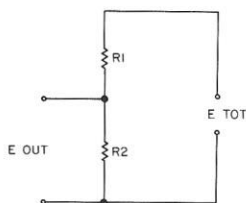

Fig. 1. Voltage divider circuit.
**Voltage divider:** The voltage divider program is located from statement numbers 200 to 460. Like the others, it may be written as a stand-alone routine. It solves for any missing part of a classic voltage divider, as shown in Fig. 1. It is useful in designing